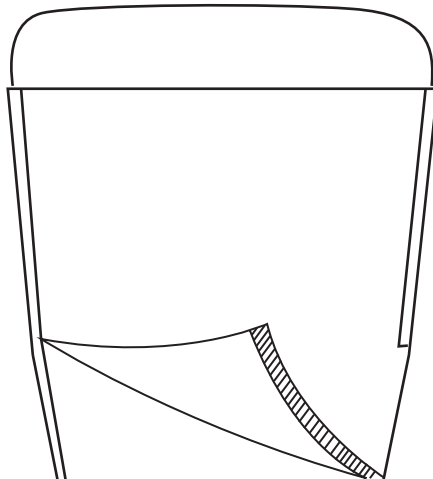

Figure 8.1
- 8** Fasten the back flap to the bottom of the furniture. (See Figure 8.1)